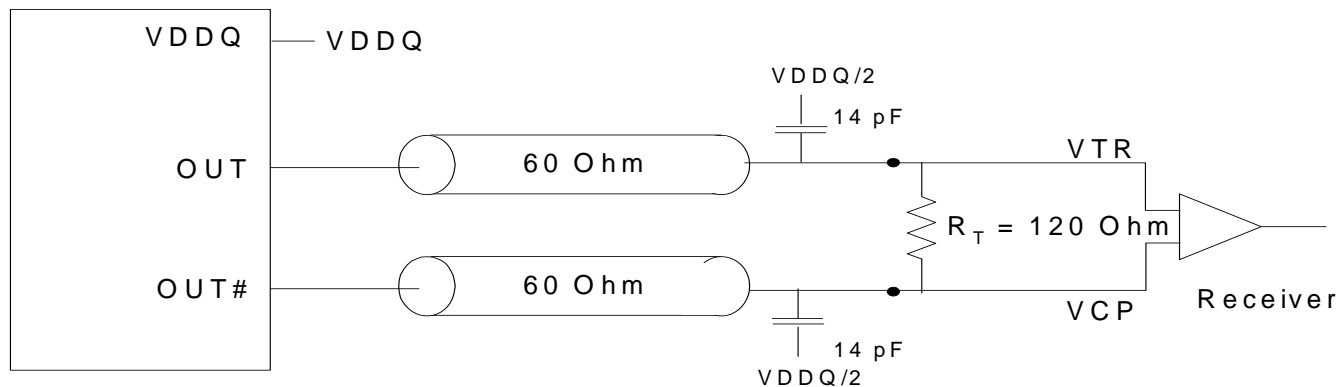

Figure 6. Differential Signal Using Direct Termination Resistor
- Differential input signal voltage specifies the differential voltage $V_{TR} - V_{CPI}$ required for switching, where V_{TR} is the true input level and V_{CPI} is the complementary input level. See Figure 6.
- For load conditions see Figure 6.
- The value of V_{OC} is expected to be $(V_{TR} + V_{CPI})/2$. In case of each clock directly terminated by a 120Ω resistor. See Figure 6.
- All outputs switching load with 14 pF in 60Ω environment. See Figure 6.